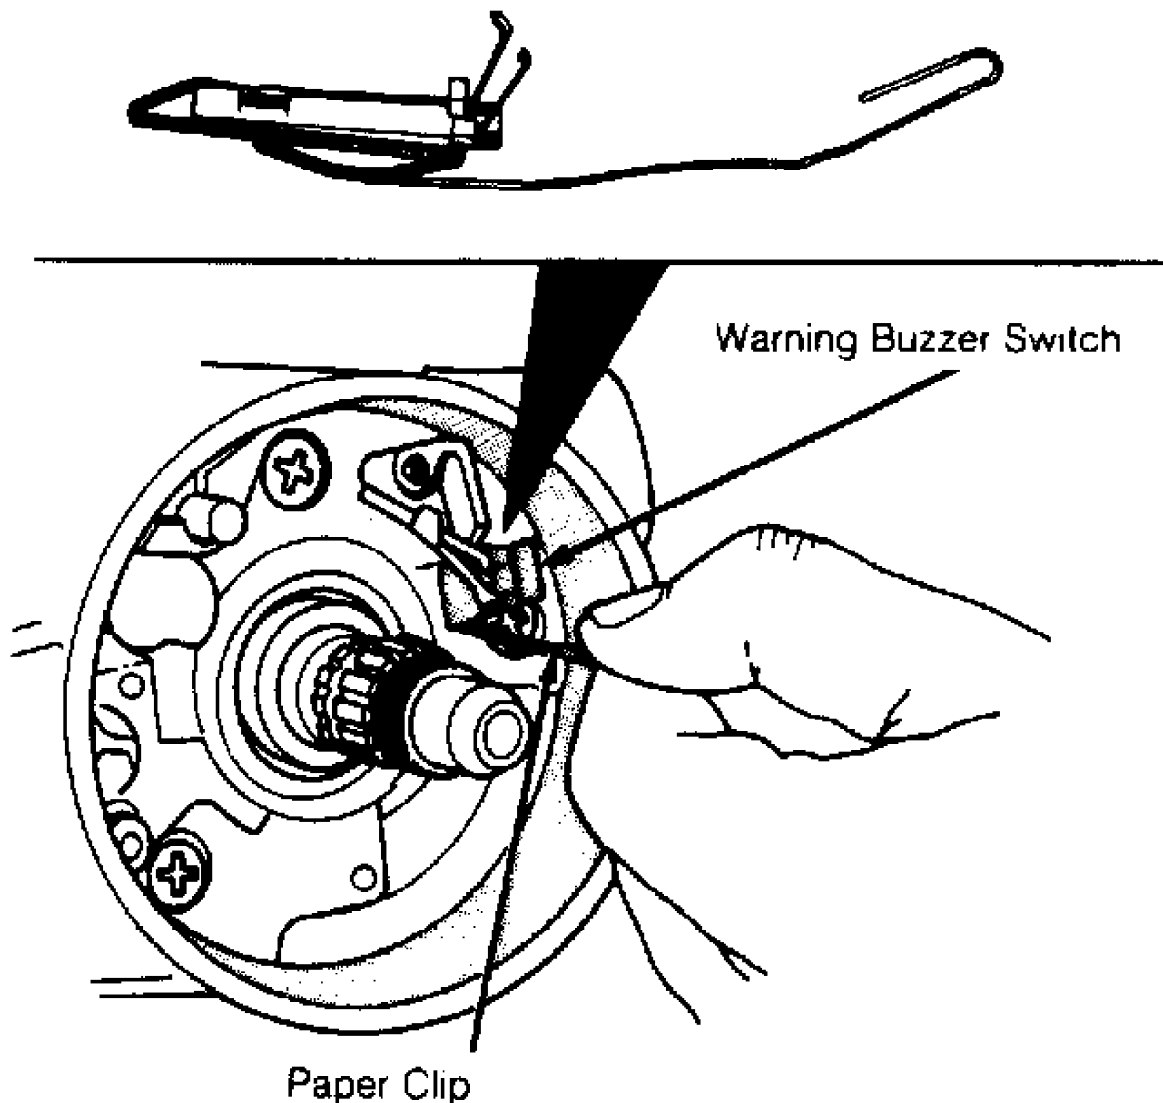

Fig. 4: Removing Warning Buzzer Switch
6) Insert paper clip below retainer so retainer is flattened. See Fig. 4. Using needle-nose pliers, remove key warning buzzer switch and contacts as an assembly.